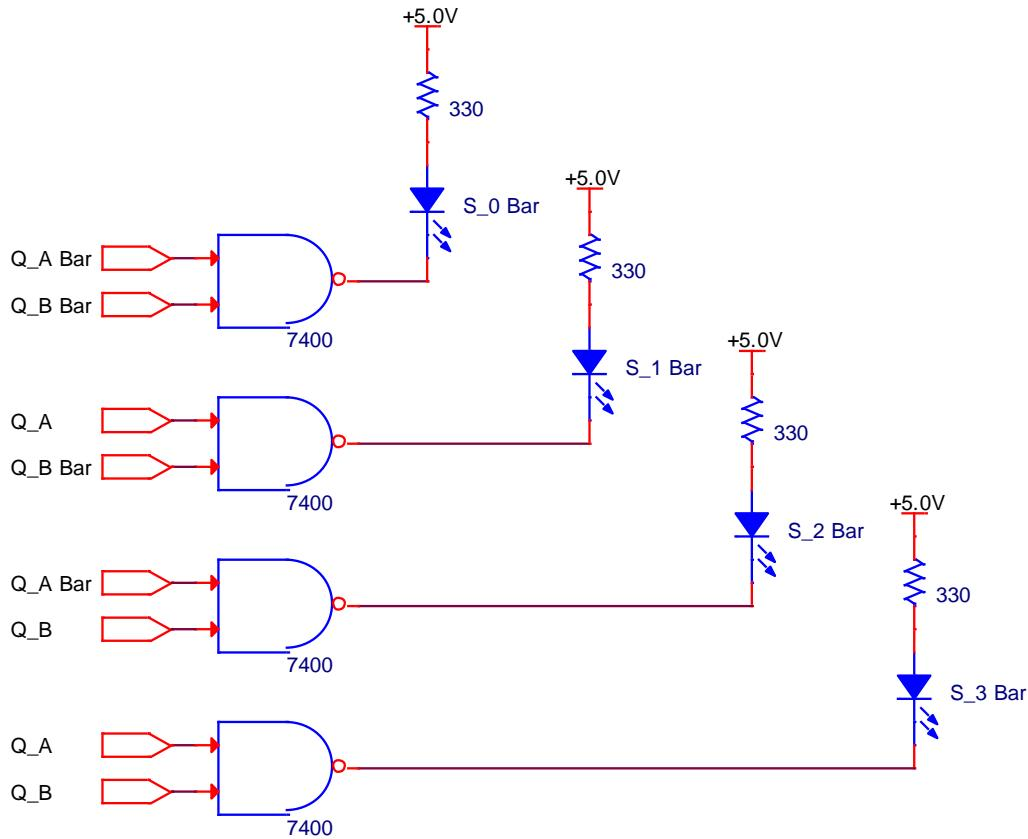

Figure 13.4
2. Build the NAND gates circuits shown in Figure 13.4, which serve as state decoders with an active-LOW output for each state. To avoid confusion, the lines from the counter to the decoders are not shown on the schematic. Save the decoder circuits as they will be used with the next counter circuit in this lab.